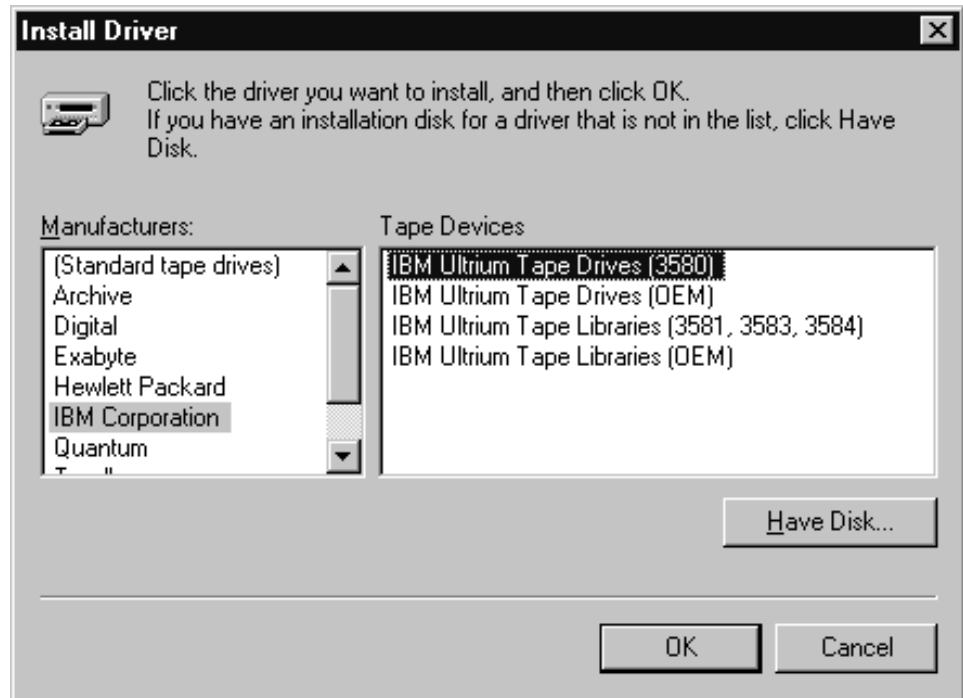

Figure 19. Install Driver Menu
8. Click **IBM Corporation**, select the device driver that matches your tape device, then click **OK**. See Figure 19 on page 233.